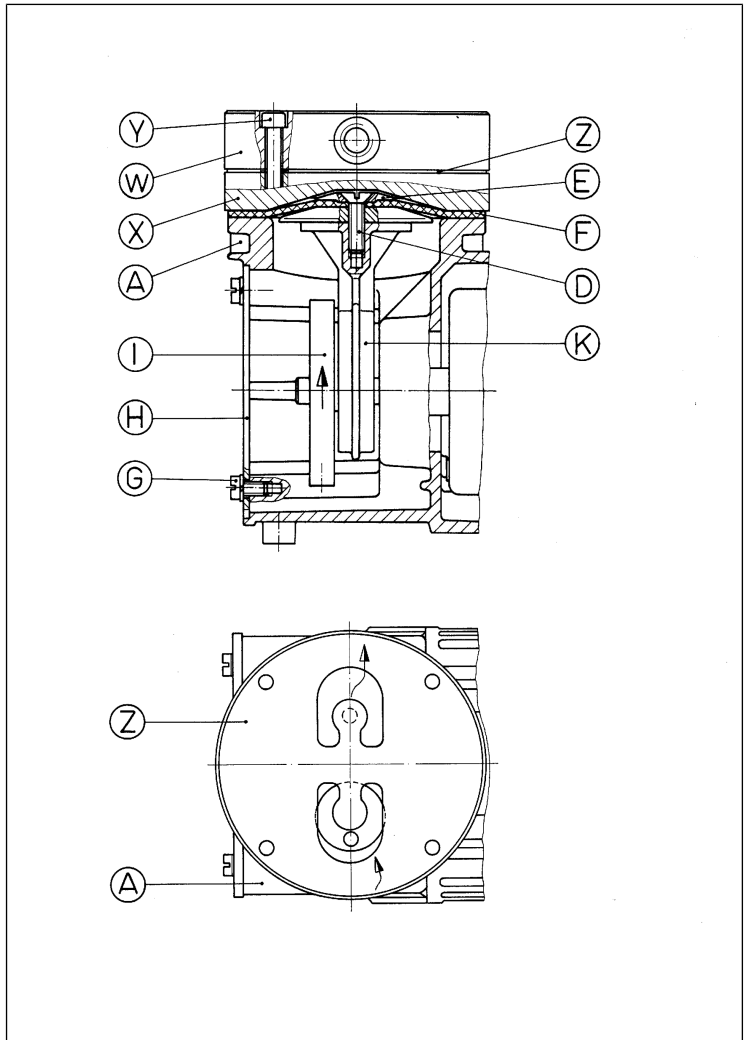

Fig.6: Pump parts
** According to Fig. 6
27. Place the intermediate plate (X) on the diaphragm (F) according to the pencil marking on the housing.
28. Place the new valve plate (Z) on the intermediate plate (X) (for alignment, see Fig. 6).
29. Place the diaphragm head (W) in the installation position marked with a pencil and tighten the Allen screws (Y) evenly crosswise (tightening torque: 5.5 Nm)
30. Check for smooth operation when turning the flywheel (I).